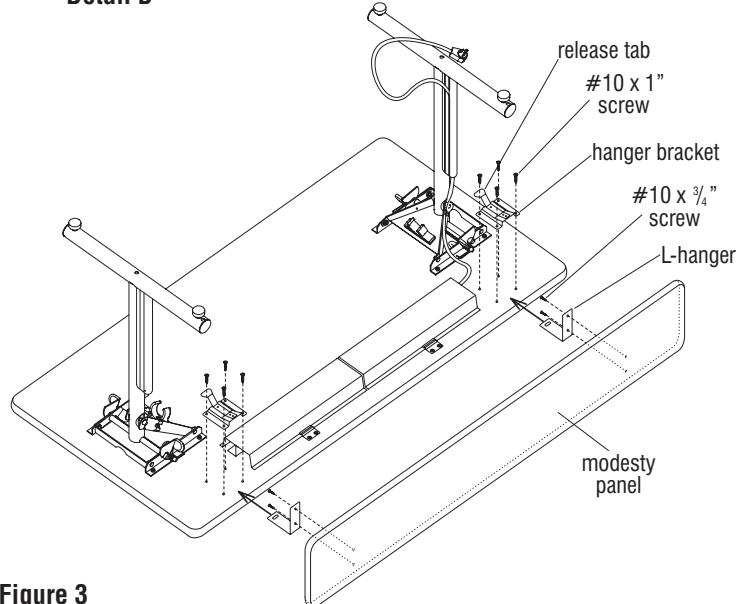

Figure 3
1. Place table top upside down on a soft protective surface. Orient hanger brackets as shown over pre-drilled holes and mount to underside of table top with four #10 x 1" screws each (Figure 3), not to exceed 40 in/lbs of torque. Carefully turn table to upright position.
2. Lay modesty panel on a soft protective surface with pre-drilled holes facing up. Fasten L-hangers to the modesty panel with two #10 x $\frac{3}{4}$ " screws each, not to exceed 25 in/lbs of torque (Figure 3).
3. To install the modesty panel under the table, slide the L-hangers of the modesty panel into the hanger brackets on the underside of the table top. When the mechanisms engage, a "click" will sound at each bracket (Figure 3).
4. To remove the modesty panel, the release tab on each hanger bracket must be pulled down while the modesty panels' L-brackets are pulled out (Figure 3).